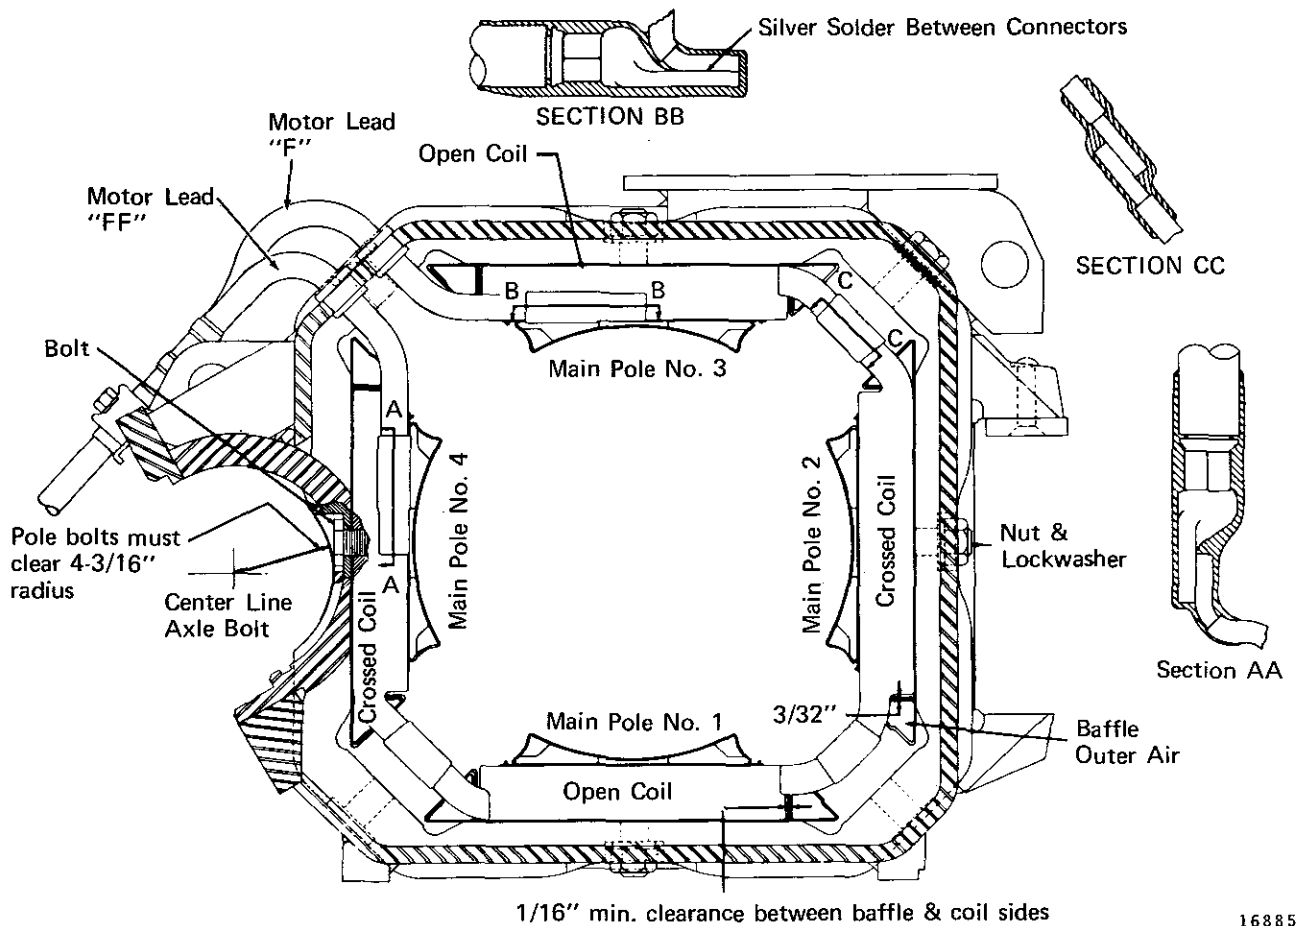

Fig. 4 – Coil Location From P.E.
6. Lower the lifting fixture and coil to a point where it can be removed from the frame, see Fig. 4, and the coil set aside.
For ease of identification, the coil locations have been numbered as to position in the frame, see Fig. 4. When facing the pinion end of the frame, the No. 1 main field coil is located at the bottom of the frame and counting counterclockwise, the other three main coil positions are No. 2 opposite axle, No. 3 top and No. 4 axle side.
Referring to Fig. 4, proceed to install the main field coils as follows:
Check 1/16" minimum inner air baffle clearance between main coil and baffle, see Fig. 4.
1. Index frame fixture so that No. 3 coil is in the bottom position. Fit "F" lead assembly through back grommet and locate 1-1/2" flat surface of terminal lug of "F" lead against bare copper to top lead of No. 3 coil, see Fig. 4, Sec. B-B.
6. Index frame fixture to position No. 4 coil, install and lineup "FF" lead to the No. 4 coil assembly and perform brazing operation as instructed for "F" lead. See Fig. 4, Sec. A-A, for "FF" lead position to No. 4 coil.